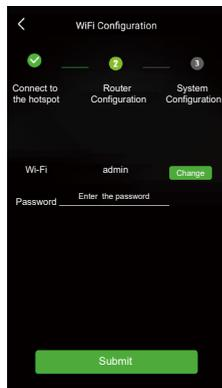
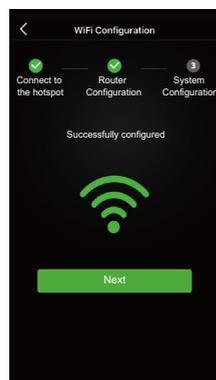

Figure 4.7 WiFi Setting
Figure 4.8 Configuration Success
Step 4 Enter the WiFi account and password and then save it, the configuration is successful, click "next", as shown in Figure 4.7 and Figure 4.8.